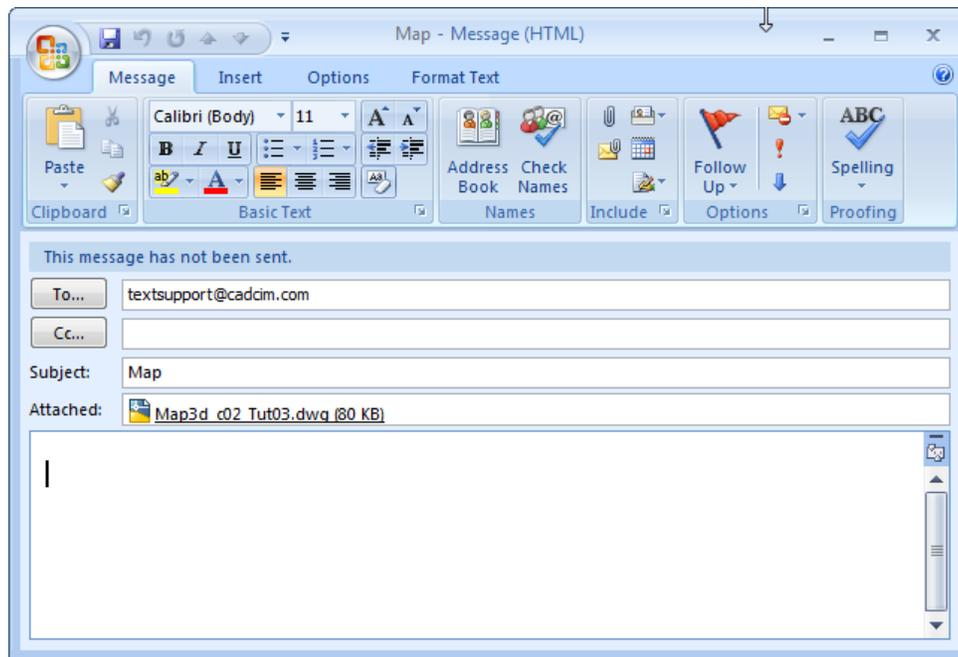

Figure 2-31 Microsoft Outlook with the attached drawing file
- Choose **Send > Email** option from the Application Menu; the *Map3d_c02_Tut03.dwg* file is attached to the e-mail in Microsoft Outlook, as shown in Figure 2-31.